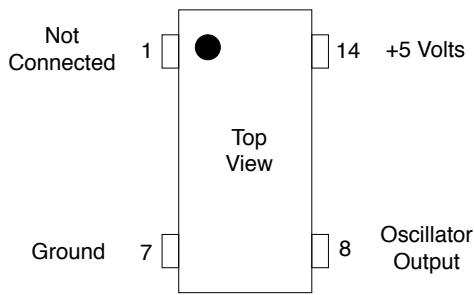

Figure 1: Pinouts for Oscillators
2. The connections for the oscillator are shown in Figure. 1. Wire power to pin 14 and connect pin 7 to ground.